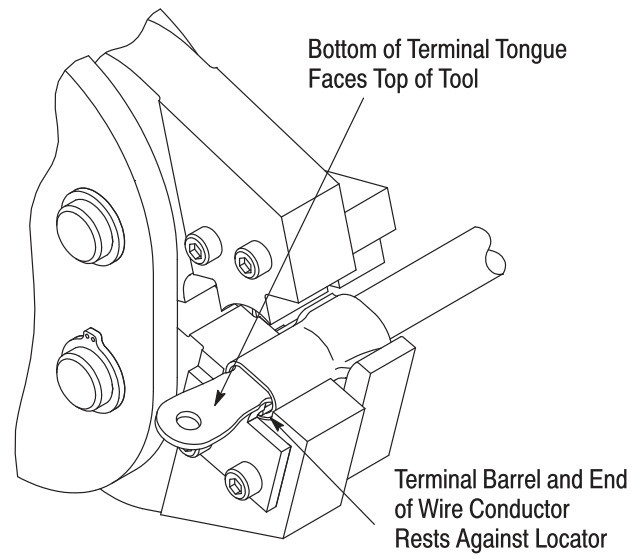

Figure 3
2. Place terminal in dies. See Figure 3. Bottom of terminal tongue should face top of tool and terminal barrel should rest against locator.
3. Insert stripped wire in terminal until end of wire conductor butts against locator as shown in Figure 3.